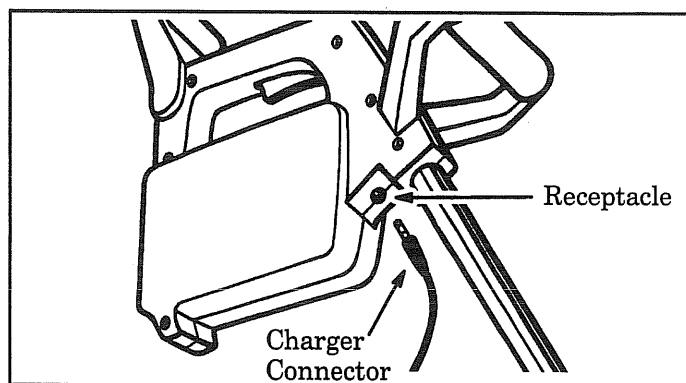

Figure 4
1. Plug the charger connector into the receptacle on the bottom of the unit. Figure 4.
2. Make sure the receptacle is free of obstructions. Figure 4.